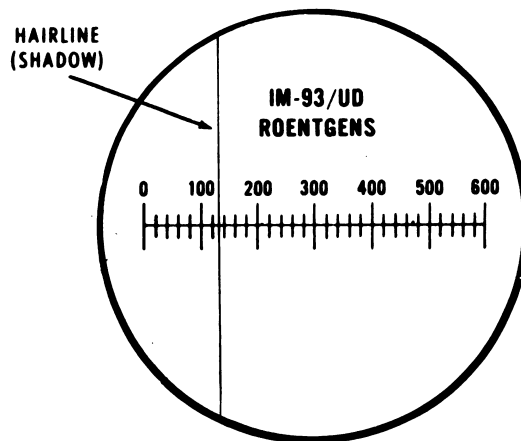

Figure 2
- c. Read the value on the scale covered by the hairline (fig. 2).